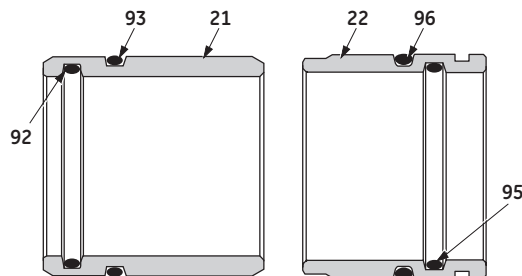

Figure 4 - Optional "O" ring arrangement
- B. Loosen locknut (46) then remove the clevis (35) and the locknut (46).
- C. Loosen and remove capscrew (41) and remove dia-phragm case (42) and diaphragm (40).
- D. Using a deep socket, loosen and remove lock nut (45) and washer (44).
- E. Remove piston (43) and spring (39) and inspect all components.
8.3 Valve Body (Refer to Figures 4 and 16)
- E. The components which should come out with the shaft (19) are: the packing (17), packing box ring (23 or 100), spacer tube (20) and upper guide bushing (21).
Note: The spacer tube (20) and upper guide bushing (21) may remain in the body. They should be removed. The spacer tube (20) can only be removed by pulling it out the bonnet end of the body. The upper guide bushing (21) may be pushed through the body after removing the plug or pulled through the bonnet end of the body. On valves designed for use on slurry or viscous service, the upper guide bushing has an inner "O" ring (92) and an outer "O" ring (93) and the lower guide bushing has inner "O" ring (95) and outer "O" ring (96) (Refer to Figure 4).